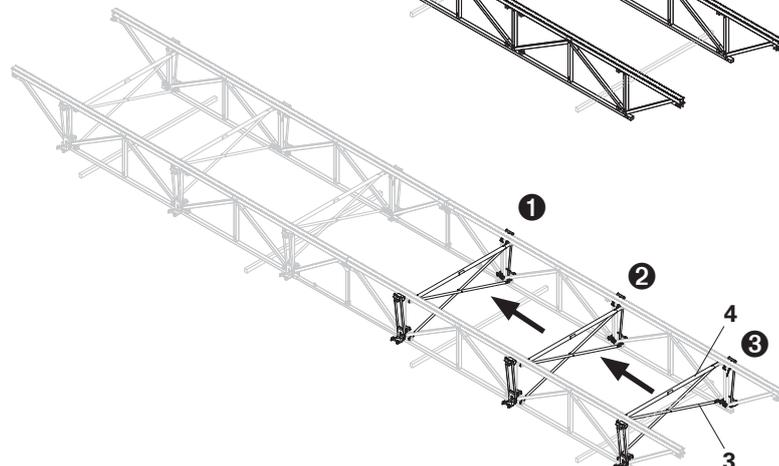

Fig. A2.10
Install Diagonal Brace (3) and Spreader Tube (4) corresponding to sequence 1 to 3. (Fig. A2.10)